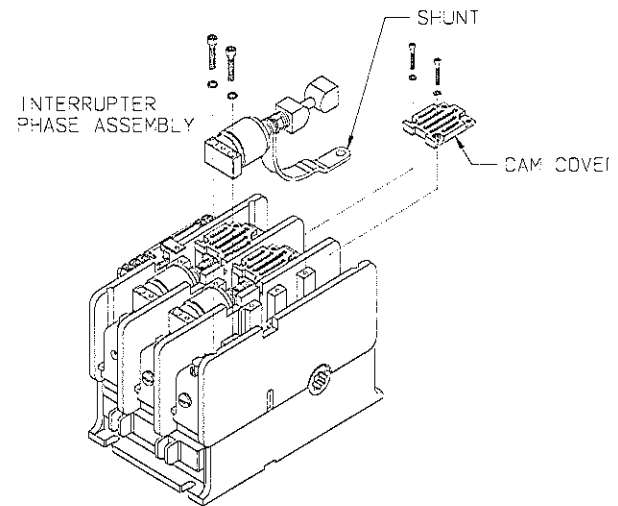
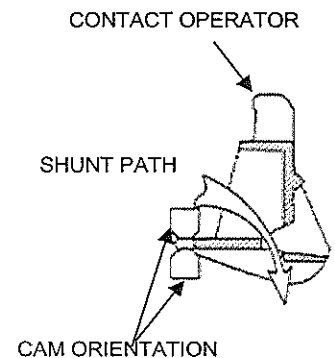

FIGURE 6B
FIGURE 6C
7. First remove the hardware securing the Cam Cover, then remove the hardware securing the Interrupter Phase Assembly. Note the position of the shunt prior to removing the Interrupter Phase Assembly. Carefully remove the Interrupter Phase Assembly (FIGURE 6B).
8. Place the new Interrupter Phase Assembly into the upper housing. Be sure that the Cams are properly seated around the Contact Operator. Thread the Shunt through the housing and Contact Operator, following the Shunt path (FIGURE 6C). Replace the hardware securing the Interrupter Phase Assembly (FIGURE 6B). Tighten screws to 60-80 inch lbs.